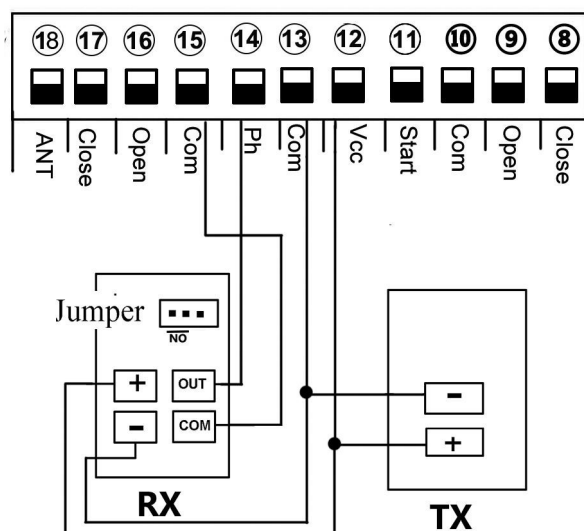

Fig 10
D. Terminal ⑧⑨ and ⑩ is for external limit switch.
E. Connect to infrared sensor.(Please see Fig 10)